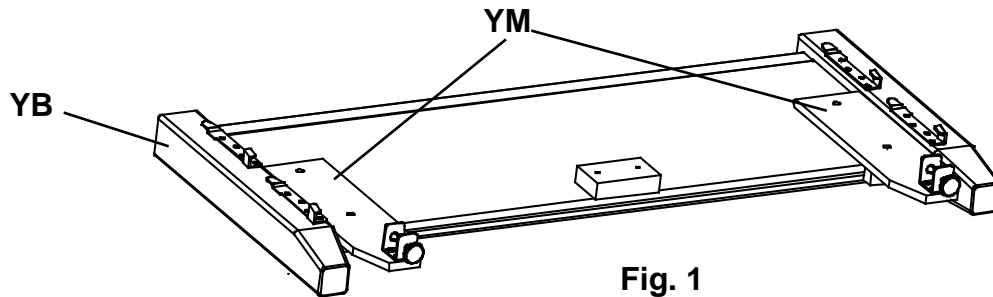

Fig. 1
1. Remove the Assembled Feet (YM) from the back of the Footboard (YB) as seen in Figure 1 and place them off to the side.